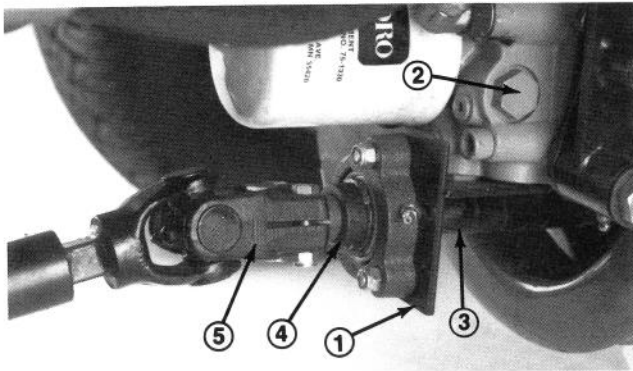

Figure 15
- Slide bearing bracket and bearing onto traction shaft, aligning the (2) bearing bracket mounting holes with the holes in rear and bottom of hydrostat (Fig. 15). Loosely mount bottom of bearing bracket to hydrostat with a 3/8 - 16 x 3/4" lg. socket head screw. Mount side of bracket to hydrostat with a m8 x 25 mm capscrew, m8 lockwasher, m8 flat washer and 1 or 2 shims. Determine whether 1 or 2 shims are required between bracket and hydrostat before tightening any fasteners. After shim(s) are in position on capscrew, tighten socket head bolt and capscrew.